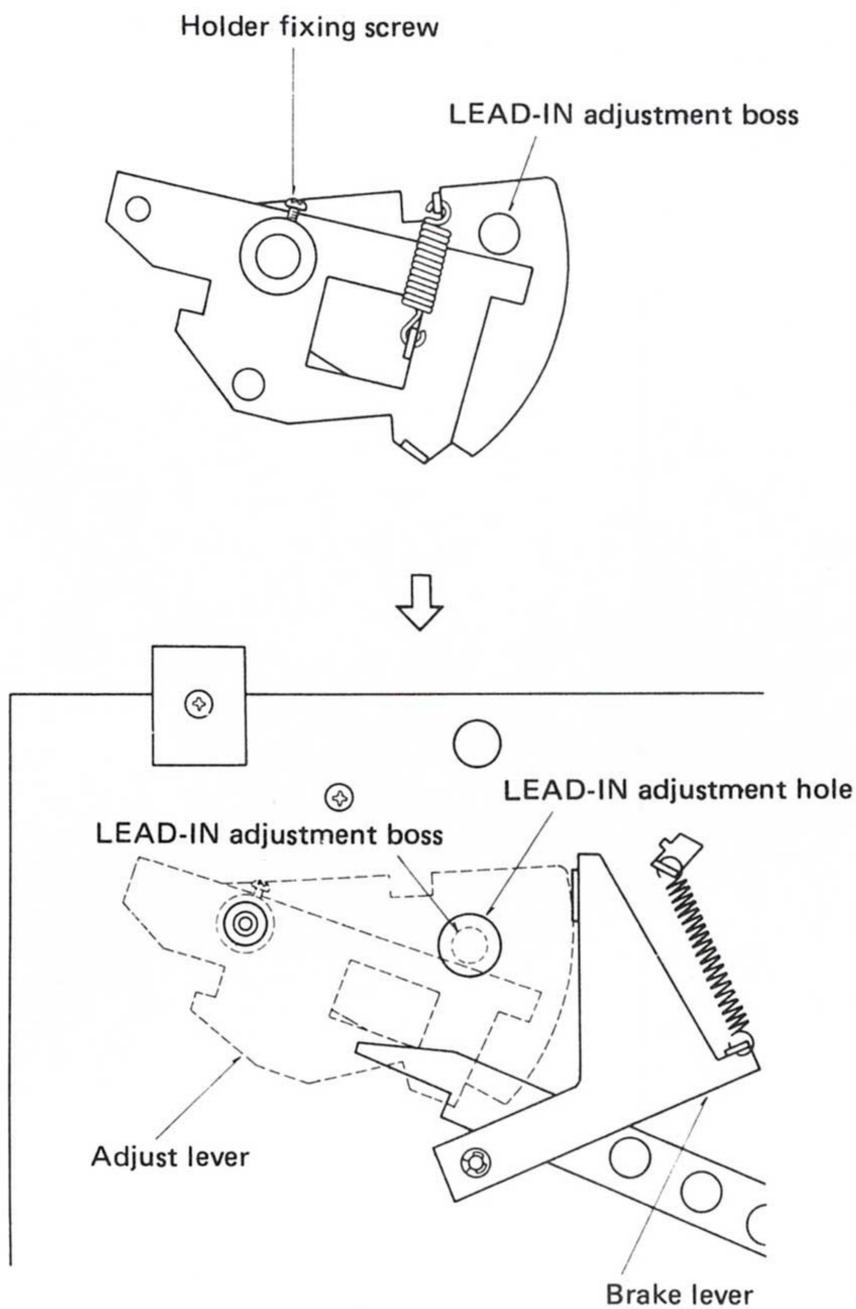

Fig. 4
- (1) Fit the tonearm to the chassis base using three screws.
- (2) Attach the adjust lever to the tonearm shaft. As the position of the adjust lever will affect the LEAD-IN position, be sure to attach it properly, referring to the Fitting Diagram (Fig. 4). Improper attachment of the adjust lever may lead to inability to perform LEAD-IN adjustments properly.
- (3) Connect the output lead wires of the tonearm.
- (4) Attach the lifter and spring using screws removed previously.
- (5) Attach the arm drive lever using the E-rings.
Note: When attaching the adjust lever to the tonearm, attach it so that the LEAD-IN adjustment boss which is provided on the adjust lever will be positioned in the center of the LEAD-IN adjustment hole of the chassis base, as illustrated in the drawing. (Fig. 4)